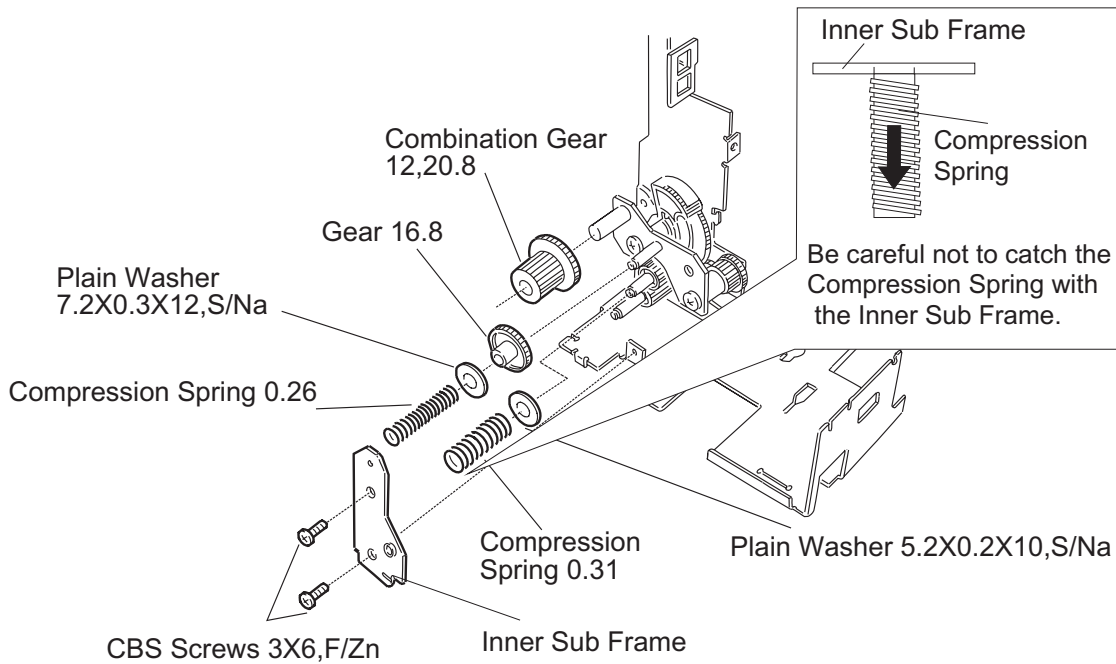

Figure 3-63. Inner Sub Frame Removal
3. Remove 1 hexagon nut (6N, class-2, M4) and 1 draft spring (0.4 g) securing the slider shaft to the middle sub frame. Then remove the slider shaft. (See Figure 3-63.)